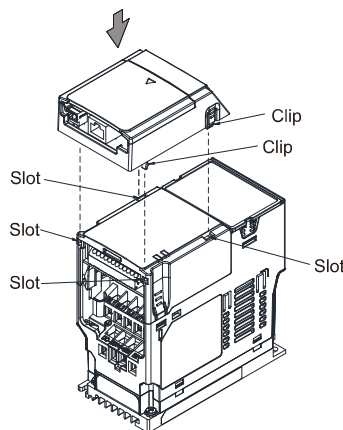

Figure 8-18
8. Assemble the mounting box for the option card: Aim the four clips of the mounting box for the option card at the slots on the upper cover of the motor drive, and then press downward to have the four clips engage the slots, as shown in the Figure 8-18.